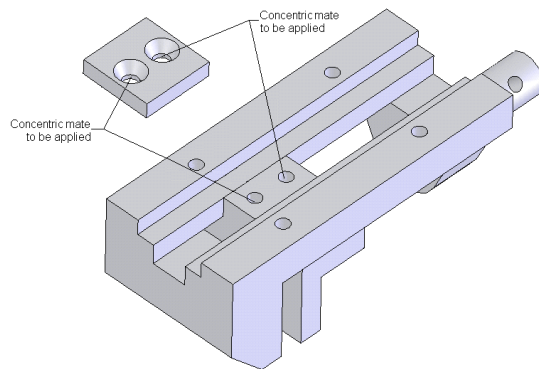

Figure 10-69 Faces to be selected to apply mate
4. Apply the **Concentric** mate between the two cylindrical faces of the clamping plate and the two holes of the Vice Jaw, refer to Figure 10-69. You may have to move the Clamping Plate after applying the first mate.